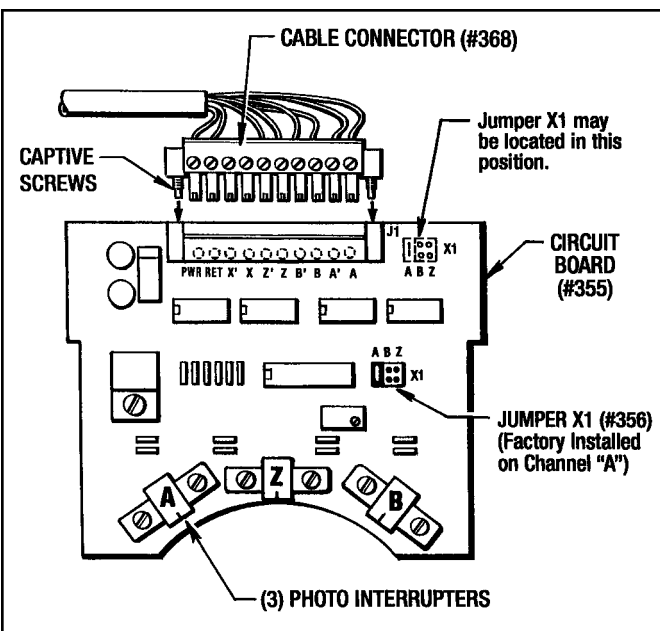

Figure 9.25 - Circuit Board Connector
11. Place the Cable Grommet (#260) and Cable (#259) into the upper slot and plug in the Cable Connector (#368) to the Circuit Board Connector and tighten the (2) Captive Screws in the Cable Connector. (See Figure 9.25)
12. Place the top Gasket (#19) on the Upper Enclosure and attach the Top Cover (#372) with (4) Screws (#225).